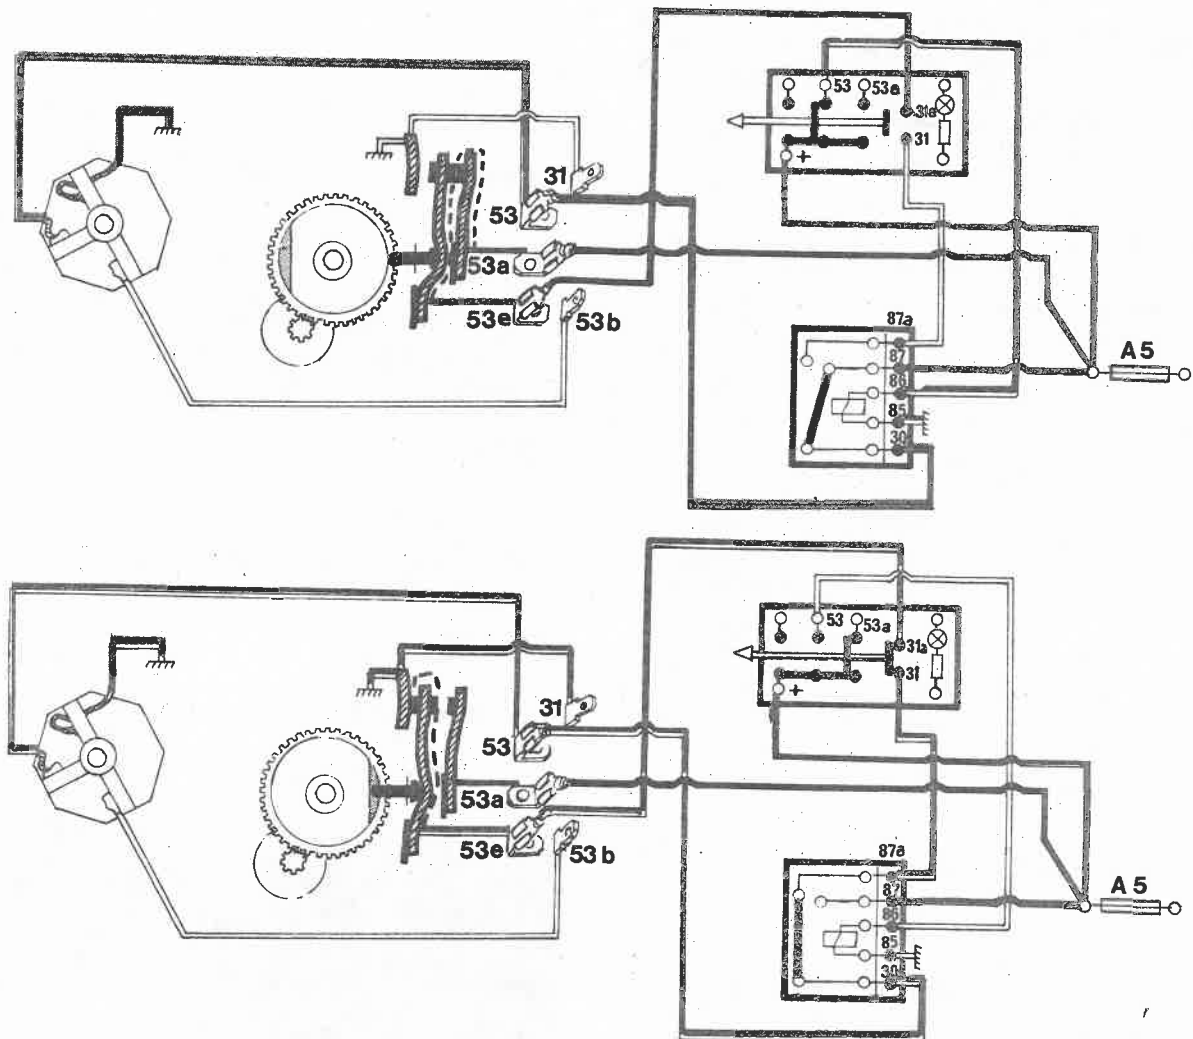

Fig. 36-20. Wiring diagram for parking function, windscreen wiper motor
8. Fit the protective cover and test-run the windscreen wiper motor. Check the parking function, see wiring diagram in Fig. 36-20.